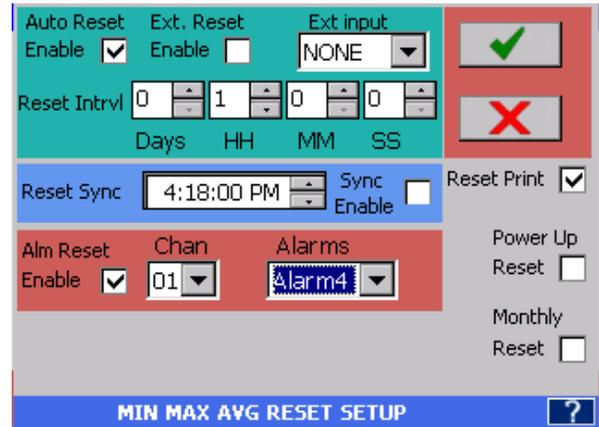

Fig 5.3 – Min Max Avg Reset Setup
**Input/Output Ranges:** Figure 5-3 shows the ±1.0 Volt input range for the analog input. The **Input** and **Output** ranges LOW and HIGH values set the scaling for the channel. They default to the zero and high values for the range so that the channel reads the full scale range. As shown when the input is zero the output will read zero, and when the input is 1 volt the output will read 1. If the Output - HIGH was set to 100 then the output would be 0 to 100 for an input of 0 to 1V. The input is effectively multiplied by the (Output High)/(Input High).
The Resistance setup dialog window is similar to that in Figure 5-3 above. Resistance measurement uses a constant current source through the load, measures the voltage and computes: